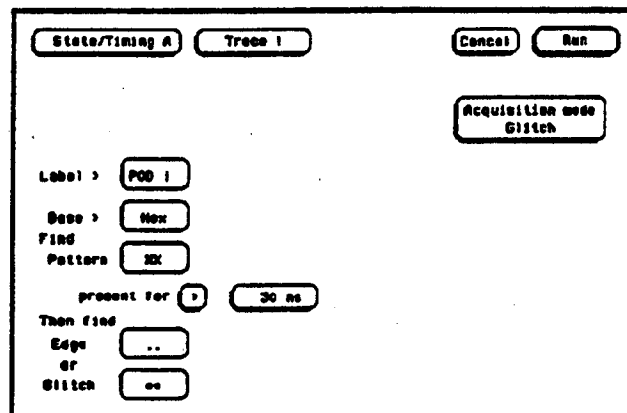

Figure 3-37. Trace Screen
5. Configure Trace screen as shown in figure 3-37. Follow steps a through c if unfamiliar with menus.